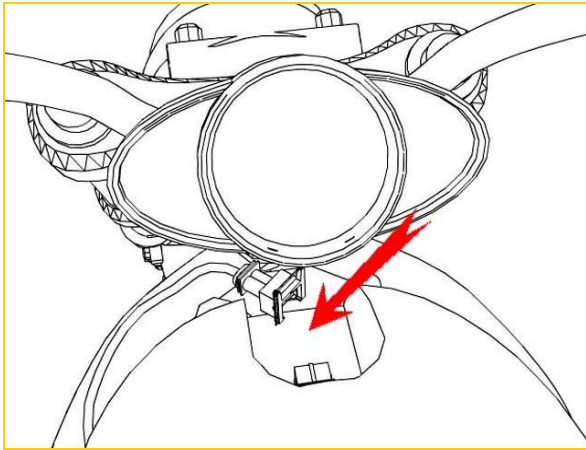

Fig 1
2. Locate and disconnect the IAT sensor. (Fig. 1)